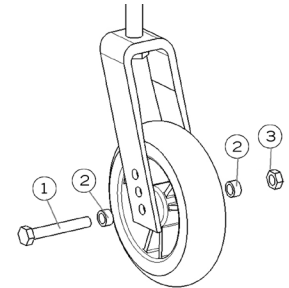

Fig. 27
- Loosen nut (3) and remove bolt (1) (Fig. 27).
- Place spacers (2) between the caster and the fork.
- Tighten nut (3) firmly